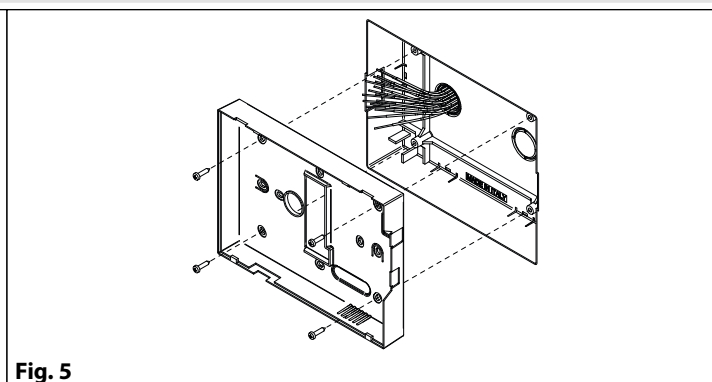

Fig. 5
3. As shown in Fig. 5, fix the back cover of the videophone to the flush mounting box keeping the same orientation shown in the figure and taking care to feed the connection cables through the specific circular opening;